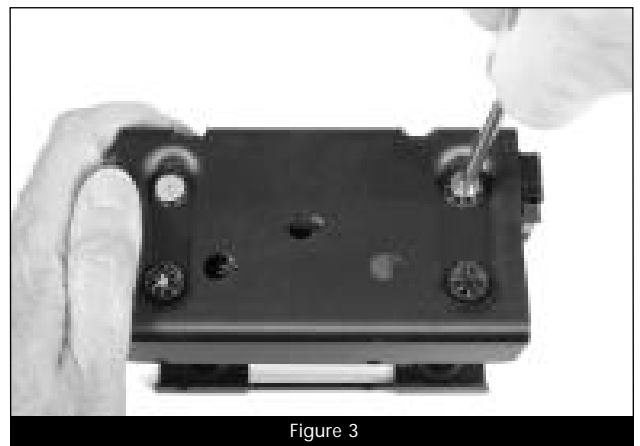

Figure 3
7. Supporting the drive, turn over the bracket. Using two of the previously removed 3.5-inch drive mounting screws, finish securing the drive to the primary bracket, turning them hand tight (**Figure 3**).